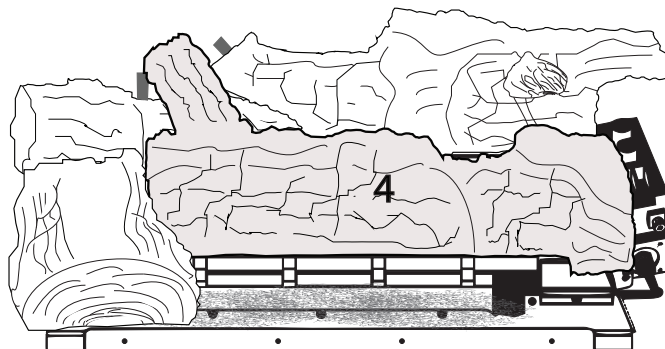

Figure 6.23 - Log #4 Placement
5. Place Log #4 in the center of the burner with the two pin locator holes lining up with the two log pins on the burner assembly. Make sure Log #4 is sitting all the way down on the burner. See Figure 6.23.